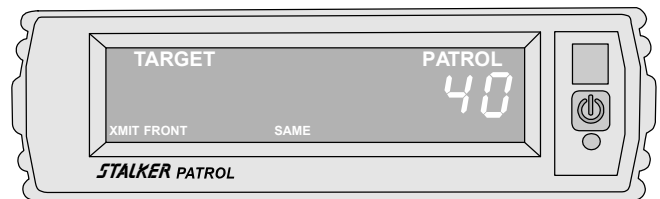
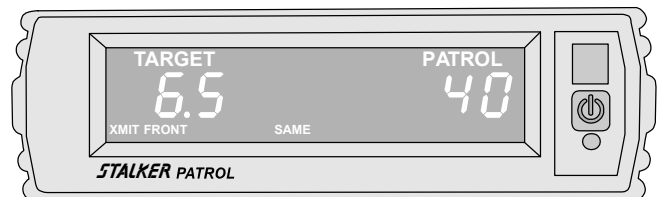

Fig 47
Fig 48
Two (2) tuning forks are supplied for **STALKER PATROL**. The tuning forks are calibrated for 25 mph and 40 mph (40 and 64 kph). To perform the tuning fork test, power the unit ON, select moving mode, and same lane mode. If the SLOW icon is present, press the **FASTEST** key to remove it. Select the front antenna, and place the unit in transmit mode. Strike both tuning forks against a hard nonmetallic surface, such as the heel of a shoe. Quickly hold the higher speed fork approximately two (2) inches in front of the antenna, with the narrow edge of the fork facing the antenna. The patrol window should indicate  $40 \pm 1$  mph (64 kph) (Fig 47). Move the lower speed fork in front of the antenna with the narrow edge facing the antenna. The target window should register 65 mph  $\pm 2$  (104 kph) (Fig 48), which is the sum of the speed of the two forks. Repeat the above test with the rear antenna selected, if installed. *Note: We recommend that the tuning fork test be performed on each antenna. Some departments perform this test both before and after each citation. Check your department policy.*